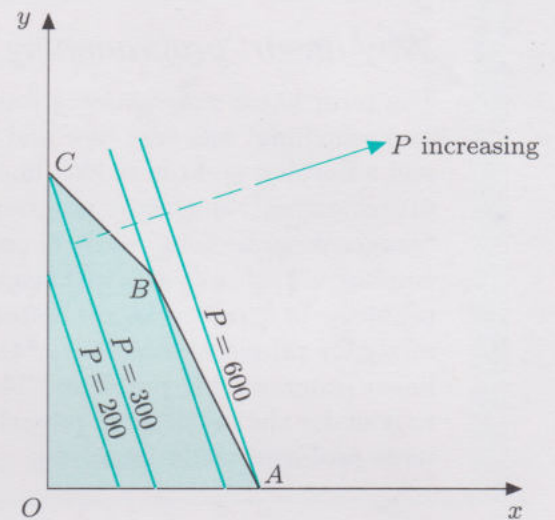
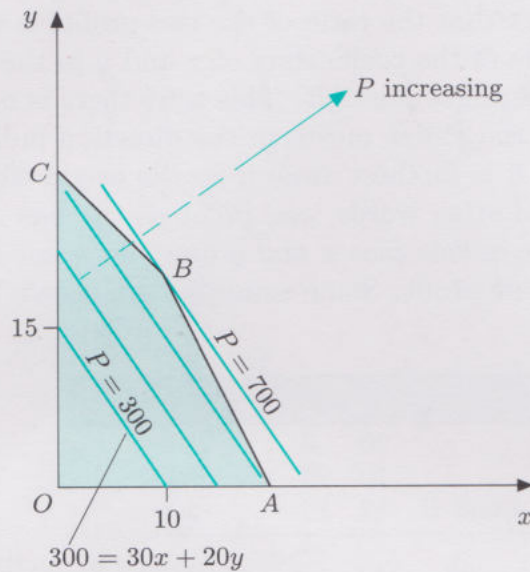

Figure 39
Figure 40
Imagine sliding one of these lines away from the origin, parallel to itself, in the direction of increasing P . You will reach the point B , but keep going—the line remains partly inside the feasible region until you reach the point A (as Figure 39 illustrates). Here you must stop, as going any further will take the P -line completely outside the feasible region.
Some P -lines corresponding to equation (28) are shown in Figure 40.
One special feature of the solutions found to the problems discussed so far is that the solutions are at corners, or *vertices*, of the feasible region, namely A in Figure 39 and B in Figure 40. The *optimal solution*—that is, the one which produces the biggest profit—is usually at a vertex of the feasible region.